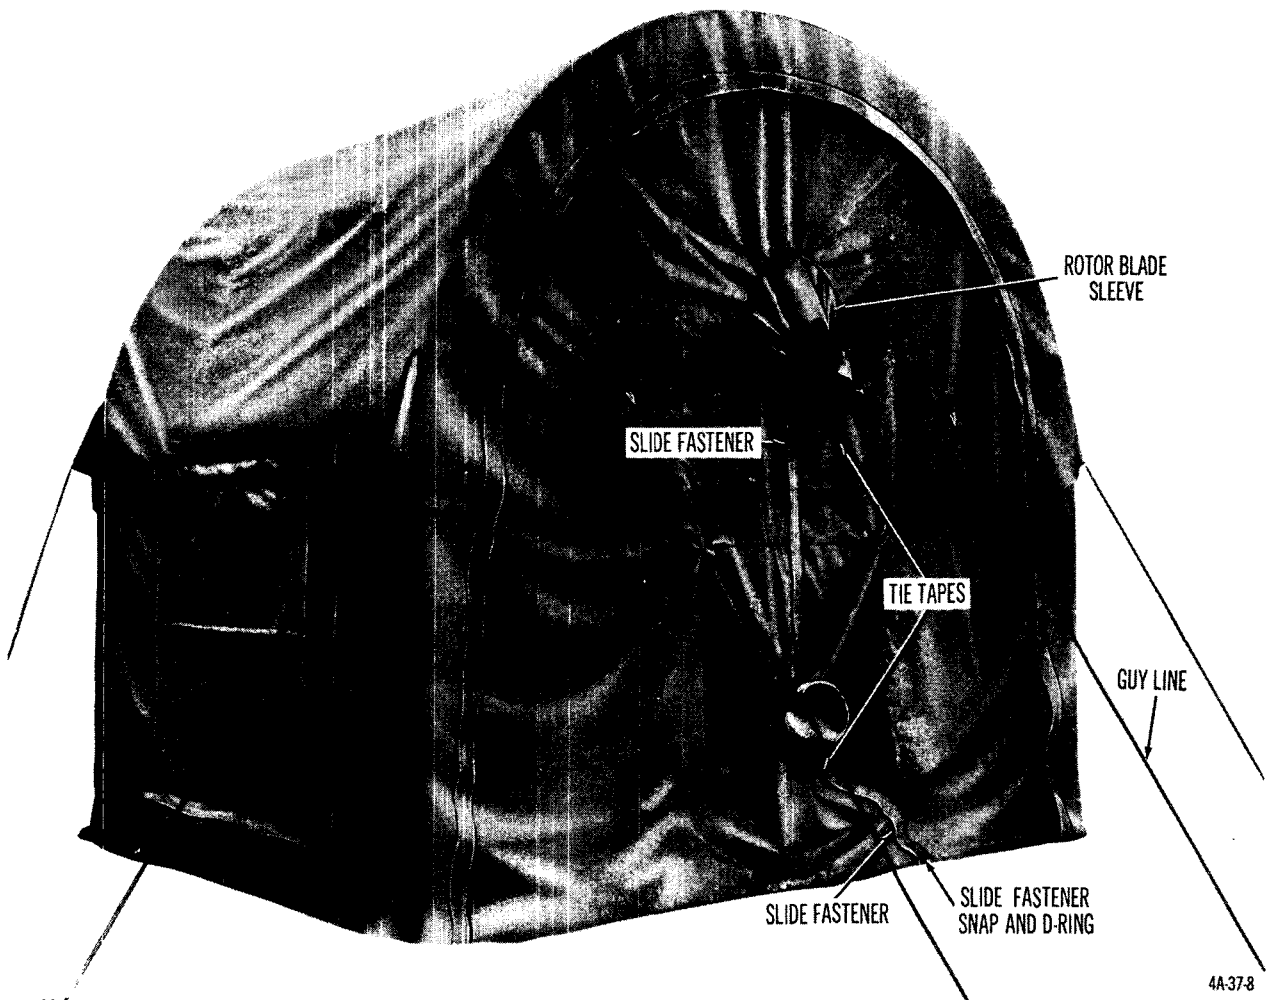

Figure 100. Tent section end closure, OH-13 (tent, aviation maintenance, small).
- (3) *Tent section, end closure, OH-13 (fig. 100).*